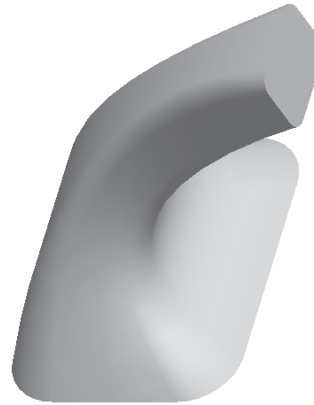

Figure 7-119 The default trimetric view of the blend feature
3. Choose **Preview** from the **PROTRUSION** dialog box and choose **OK**. The default trimetric view of the blend feature is shown in Figure 7-119.